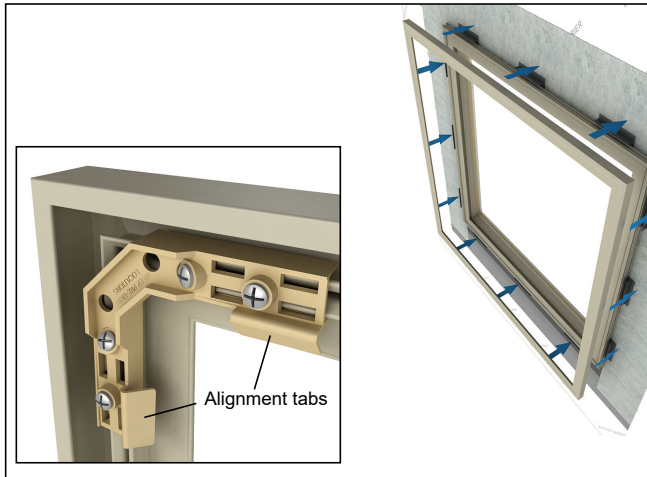

Figure 11
6. Press casing assembly onto connection bars by lining up all corners with the corner key alignment tabs. Press firmly (20-40 pounds of pressure) around the entire casing assembly until it is seated fully over frame. **Do not use excessive force, mallets, hammers, etc.** See figure 11.